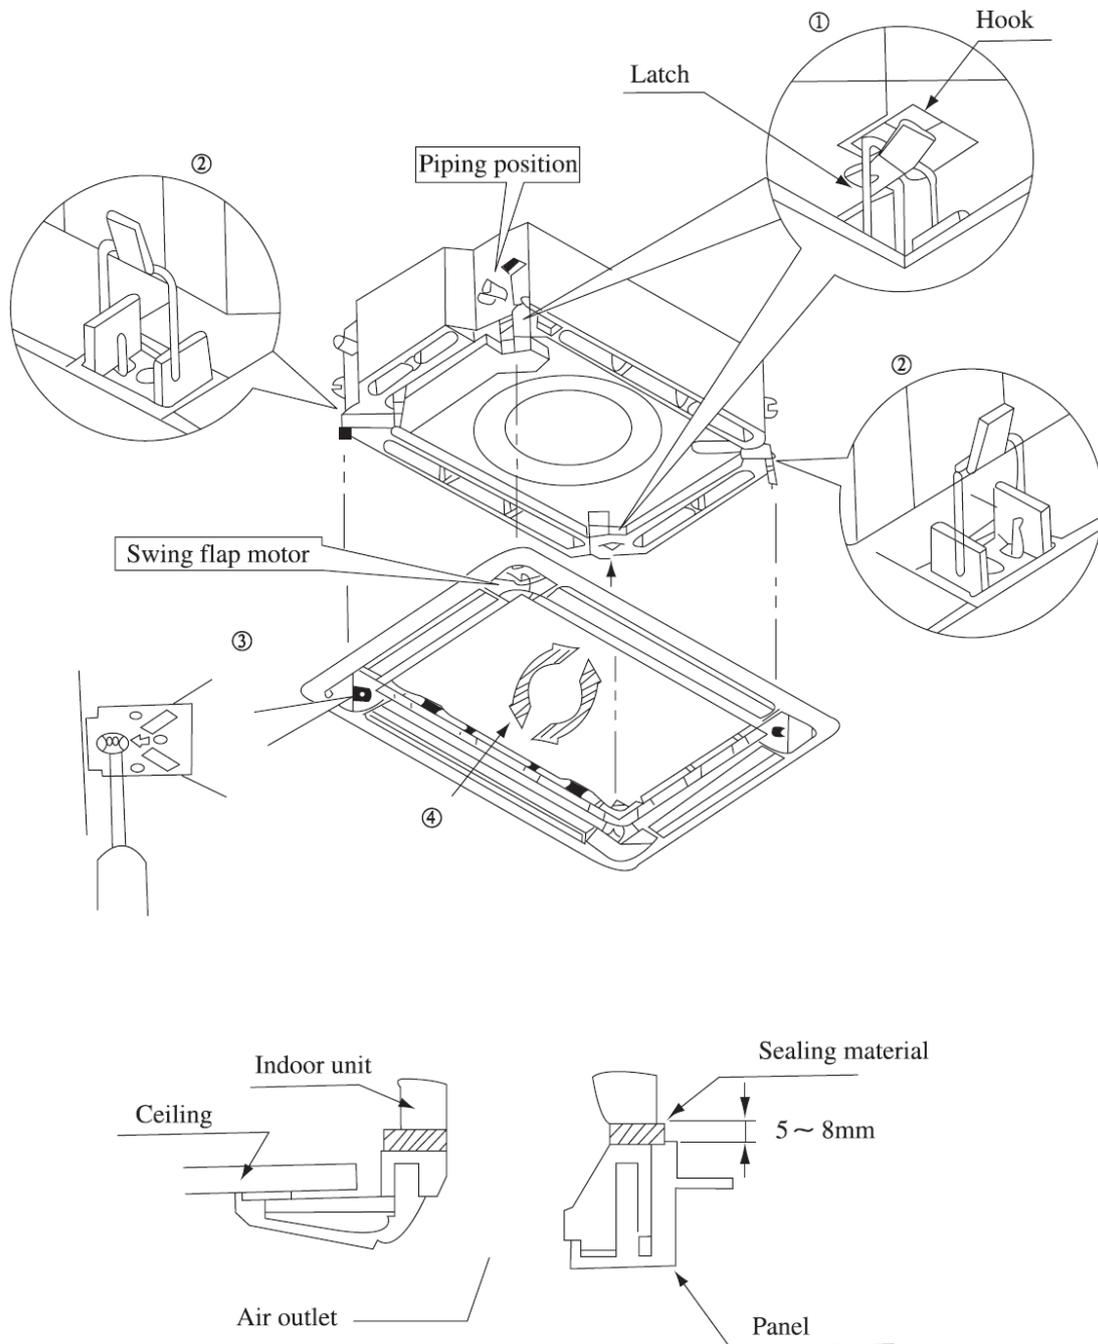

Fig.4
● Set the panel to the indoor unit body by matching the position of the swing flap motor of the decoration panel to the piping position of the panel to the piping position of the indoor unit as shown in fig.4.
4. Adjust the panel by turning it to the arrowed direction in Fig.4 so that the ceiling opening is completely covered.